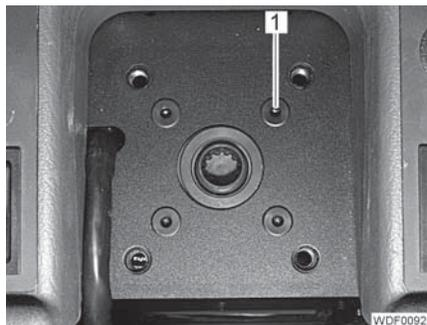

Fig. 128 Orbital steering valve attachment
- Unscrew the 4 screws (Fig. 128,1) and remove the orbital steering valve rearwards.
- Screw in and tighten the 4 screws (Fig. 128,1).